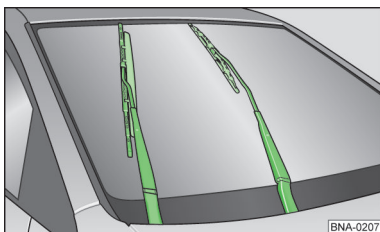

Fig. 61
In the service position, the wiper arms can be folded away from the windscreen » fig. 61. To bring the windscreen wipers into the service position, do the following:
- When the wipers are in the highest position » fig. 61, switch off the ignition.